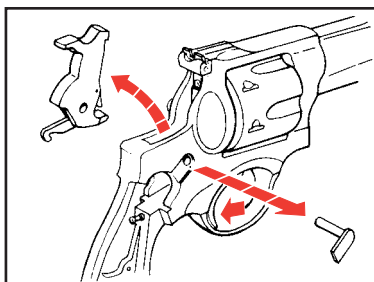

Figure 14
2. With the trigger pulled, remove the hammer pivot assembly and hammer (See Figure 14). At this stage of disassembly, return to the Disassembly instructions on page 21 and pick up with step 5.